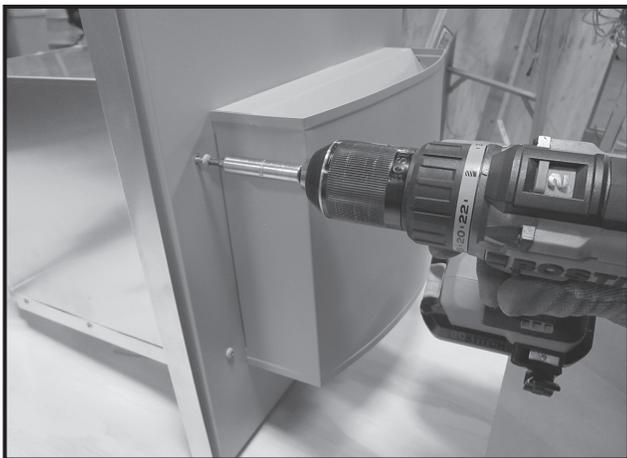

Figure 3.16
10. The front cover must be removed to access the mounting holes for the cap. Remove the four screws that attach the front cover, then remove the cover. See Figure 3.16.